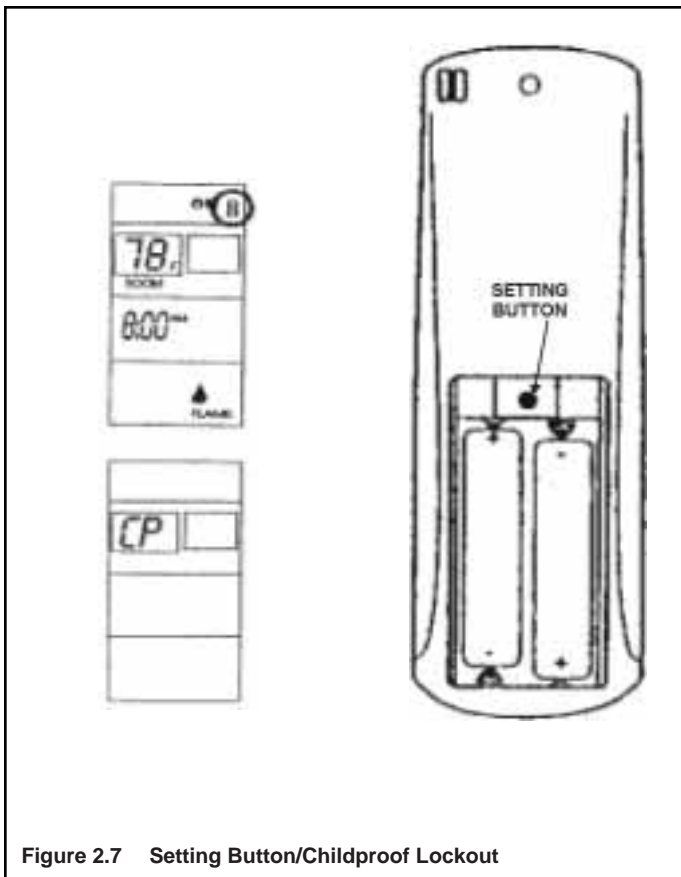

Figure 2.7 Setting Button/Childproof Lockout
- Remove the battery cover on the back of the transmitter and locate the “setting button” at the top center of battery compartment (see Figure 2.7).
- Press and hold in the "setting button" for 5 seconds (see Figure 2.7). The letters CP will display on the LCD screen). This prevents the activation of fireplace. When any function button is pressed ON/OFF etc. the letter CP will display on the LCD screen.